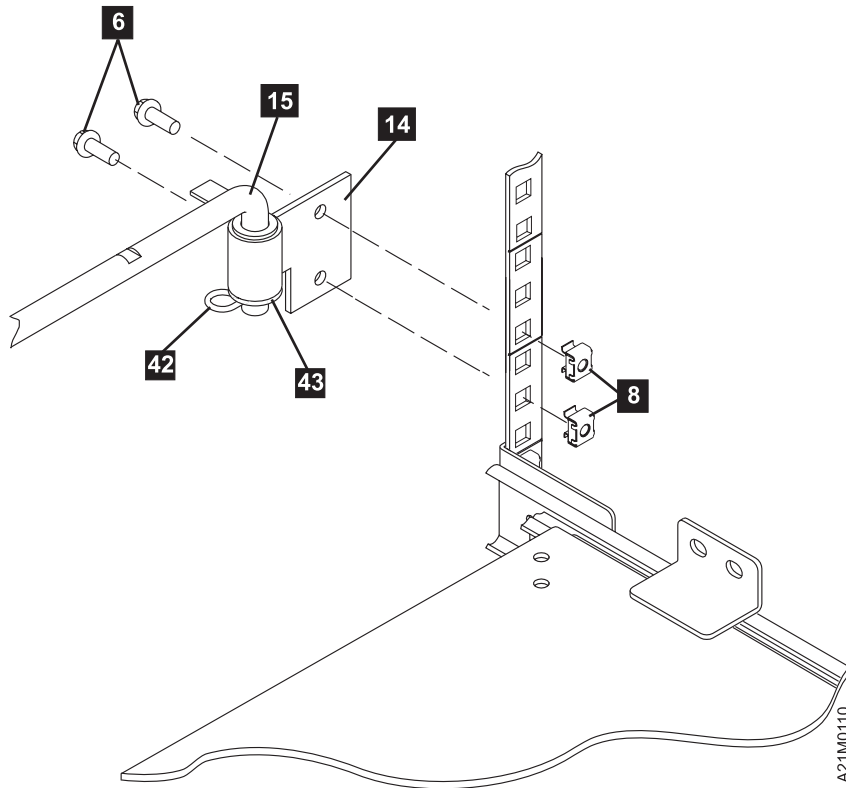

Figure 42. Attaching Cable Arm Hinge and Bracket
- ___ Step d. See Figure 42 on page 88 to install two M6 caged nuts **8** for the articulated arm hinge. Viewed from the front of the rack, install the caged nuts on the right rear EIA strip. Ensure there is one open hole above the top slide caged nut.
- ___ Step 10. See Figure 42 on page 88 to install the pivot hinge **14**. Use two socket button head screws **6** through the pivot hinge and into the two caged nuts **8**. Tighten the screws. The pivot hinge should be installed in the EIA unit just above the right rear slide mounting position.